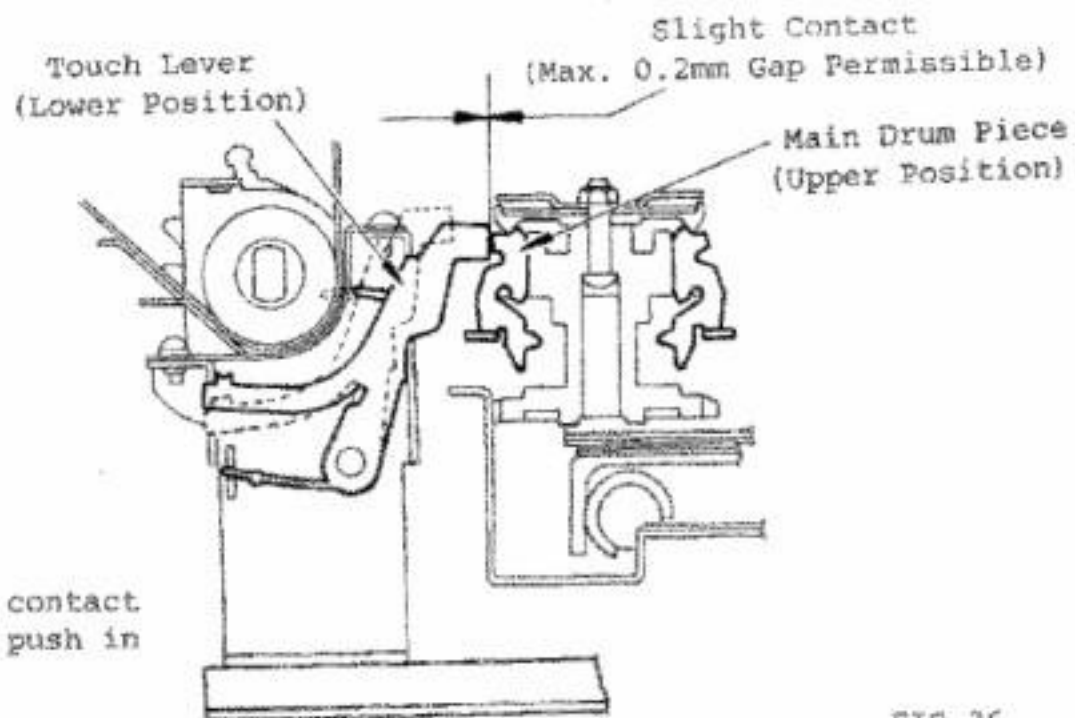

FIG.36
2. Position the Carriage so that Main Drum Piece is pushed in and aligned with Touch Lever as shown in Figure 36. Using the blade of -Screwdriver, move the Pattern Unit back and forth to obtain a slight contact (0 to 0.2mm gap permissible) between Touch Lever and Main Drum Piece.